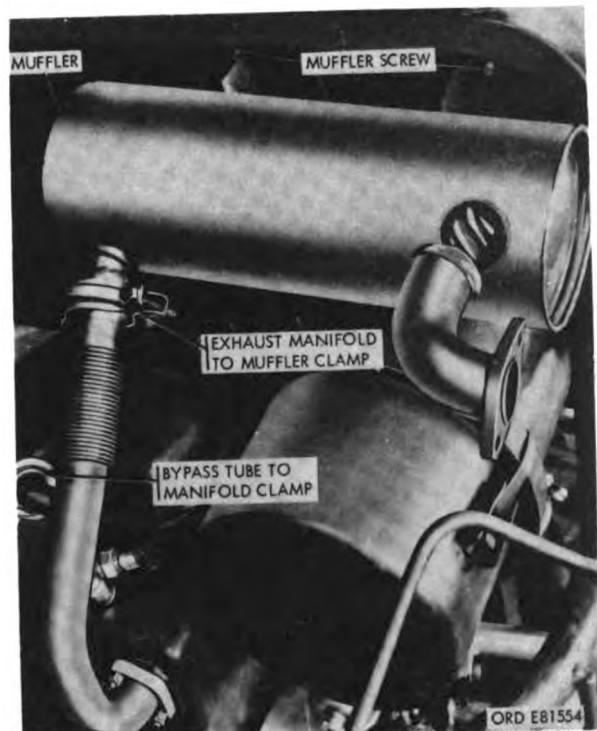

Figure 2-8. Exhaust manifold-to-muffler connection.
For engine installation, reverse steps in paragraphs 2-17a through t, and figures 2-8 through 2-7.
- (1) Intake tubes and manifolds.
- (2) Exhaust manifold (fig. 2-8).
**h. Bypass Tubes.** (fig. 2-8).